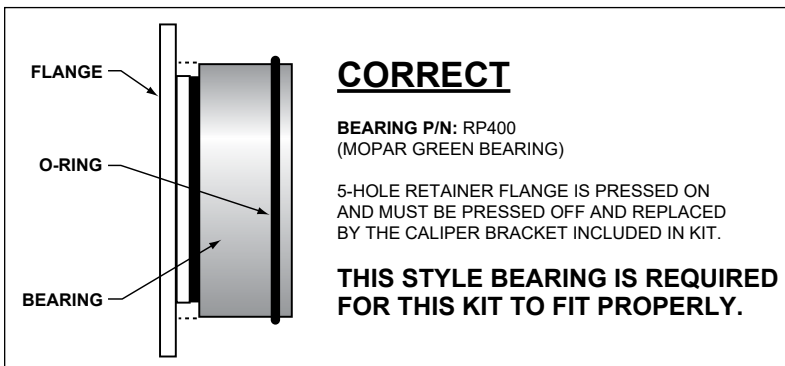

Figure 1. Press Fit Bearing Configuration
- It is important to verify which bearing you have. There are two types of “Green Bearings” being supplied by axle manufacturers. Your setup should look like Figure 1, otherwise you have the wrong kit.
NOTE: Before any tear-down or disassembly begins, it is important to verify which bearing you have. There are two types of “Green Bearings” being supplied by axle manufacturers. Your setup should look like Figure 1, otherwise you have the wrong kit.
- Determine that the appropriate "Green" non-adjustable press-on flange bearing has been installed on the axle, as shown in Figure 1.